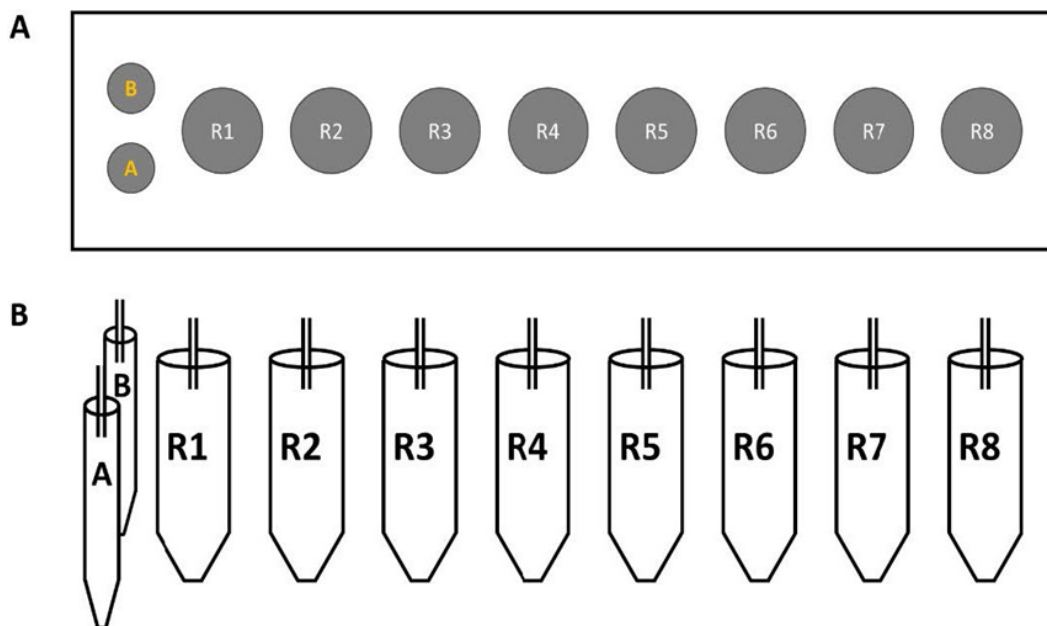

Figure 143 – Reagent loading positions
4. Attach the sippers to each position in the loading bay (Figure 143) by pushing them firmly onto the nozzle. Put on new gloves immediately before handling the sippers.